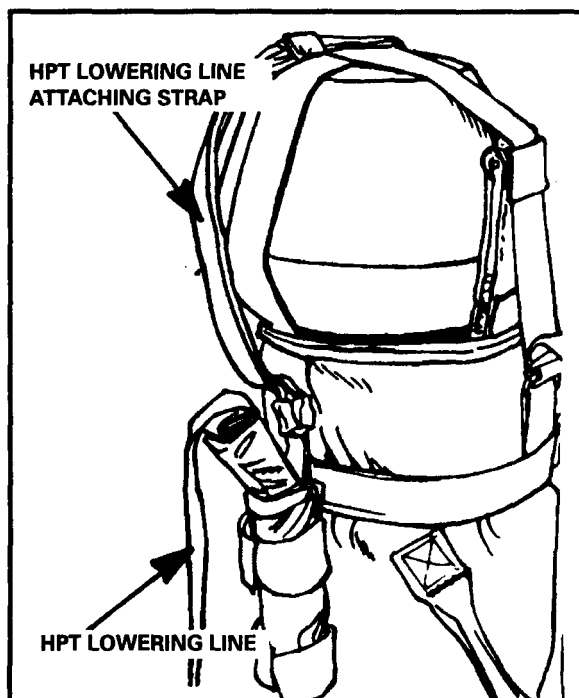

Figure 12-39. Lowering line attached.
(1) Attach the lowering line to the lowering line attaching strap by routing the looped end of the HPT lowering line through the looped end of the lowering line attaching strap (Figure 12-39). Route the lowering line through its own loop and pull tight, forming a girth hitch.